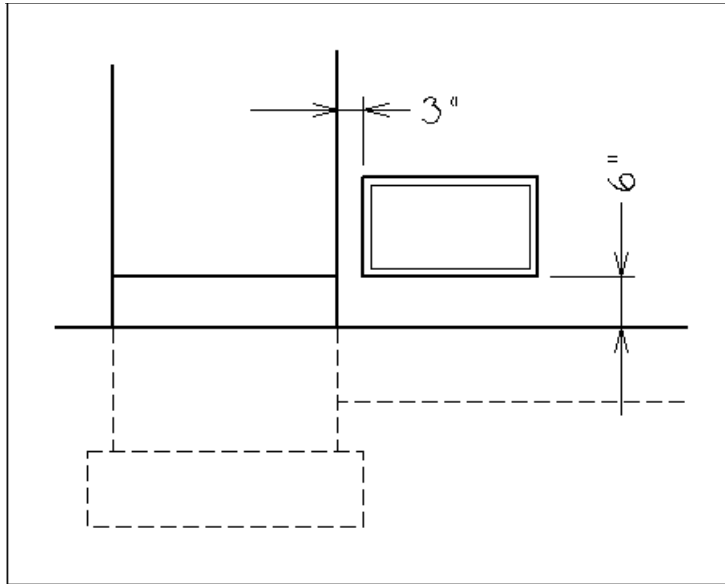
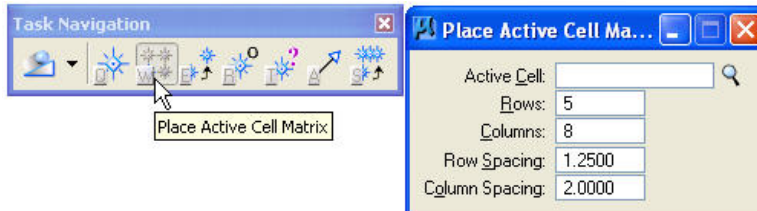

Figure P12-8 Garage door detail
Figure P12-9 Place Active Cell Matrix tool settings
STEP 5: Use Figure P12-8 as a guide and invoke the Place Active Cell Matrix tool to place a rectangular array of the **Garage Panel** cell in the garage door. Figure P12-9 shows the required tool settings for the array.